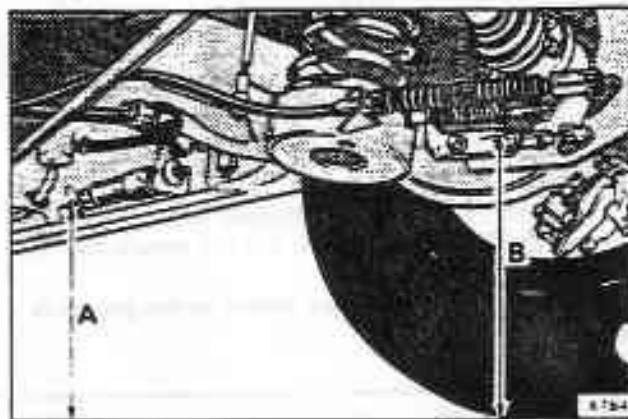

Fig. H10-1 Rear ride height setting
16. With the minimum pressure valves retaining the correct strut pressures, measure the height at points A and B as shown in figure H10-1. Both measurements should be taken from the level surface on which the car stands. Dimension A to the foremost bottom bolt securing the sub-frame mounting bracket to the body sill. Dimension B to the centre of the rear bolt attaching the parking brake linkage to the trailing arm.